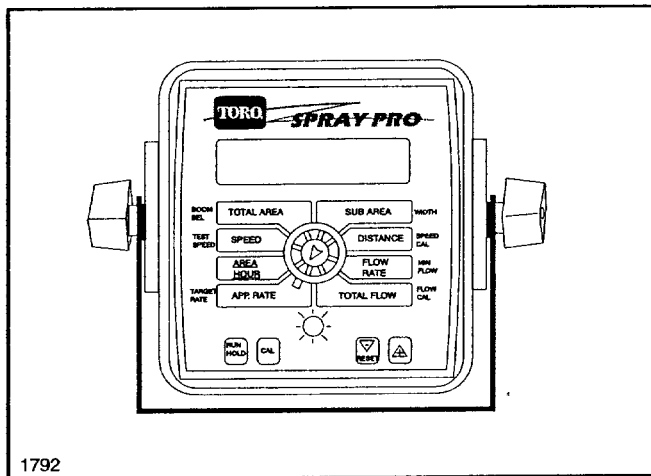

FIG. 6
5. Select the "APP RATE" position on the Spray Pro™ (See FIG. 6) and use the Pressure Adjust Switch to obtain the desired rate. When the desired rate is obtained, verify that the spray pressure is within the operating range for the nozzle being used.